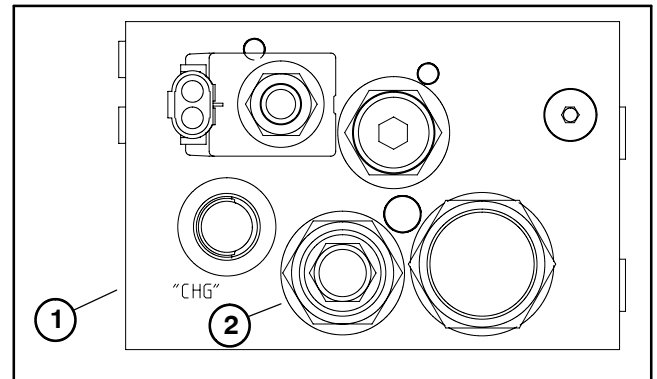

Figure 37
6. Pressure reducing valve (PR) is located on the lower, front side of the 2WD/4WD control manifold (Fig. 37). Adjustment of this valve can be performed as follows: